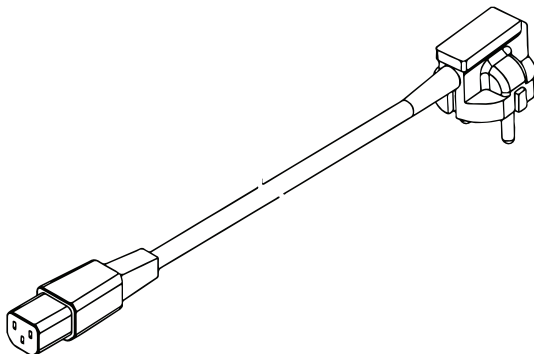
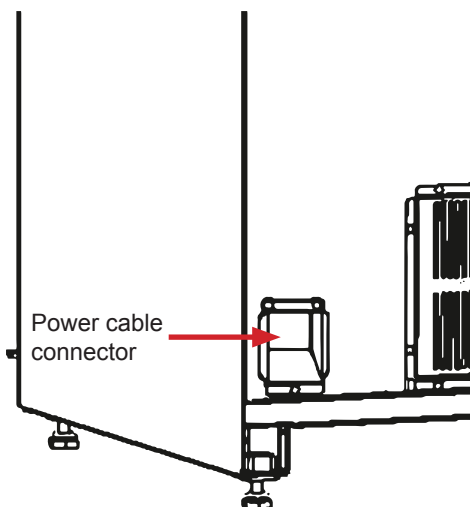

Fig.25 - The power cable
Fig.26- Machine's rear view
- Plug the power cable connector (see figure 25) to the relevant connector on the Machine's rear panel (see figure 26)